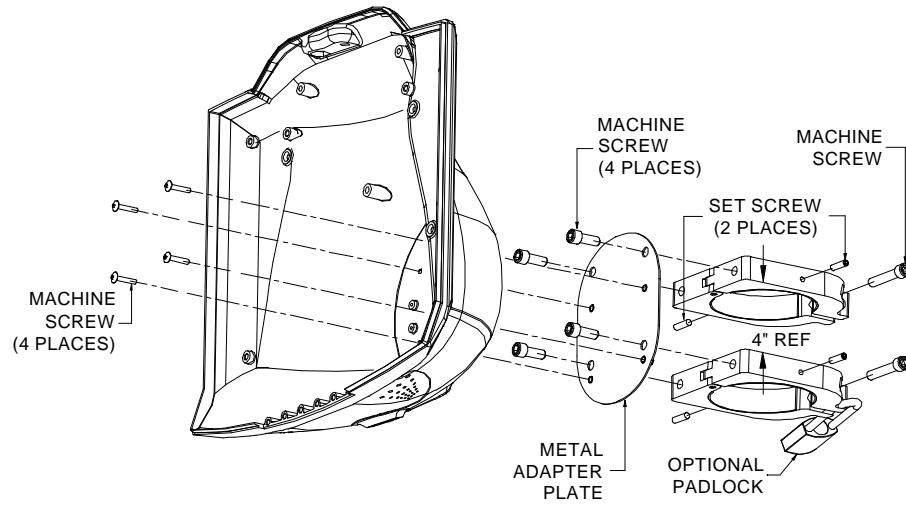

FIGURE 6 - LALLY COLUMN MOUNTING OF TERMINAL
1. Open one of the column brackets and clamp it to the column at the level where the terminal will be mounted. Secure the bracket with the supplied machine screw (3/8 - 16 x 1 - 1/2 L) as shown in Figure 6.
2. Open the second column bracket and clamp it to the column 4 inches from the first bracket (measuring from the inside of one bracket to the inside of the second bracket). Secure the bracket with the supplied machine screw (3/8 - 16 x 1 - 1/2 L) as shown in Figure 6.
3. Attach the metal adapter plate to the column brackets using the 4 supplied machine screws (3/8 - 16 x 1 L) as shown in Figure 6.
4. Install the 2 set screws (1/4 - 20 x 1/2 L) on either side of each column bracket to secure the brackets. See Figure 6.
7. Attach the terminal to the metal adapter plate using the 4 supplied machine screws (10 - 32 x 3/4 L) as shown in Figure 6.